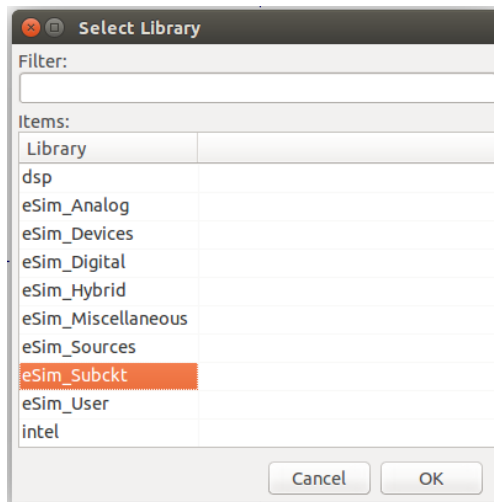

Figure 8.6: Selecting Working Library
2. Select the working library as eSim_Subckt as shown in Fig. 8.6